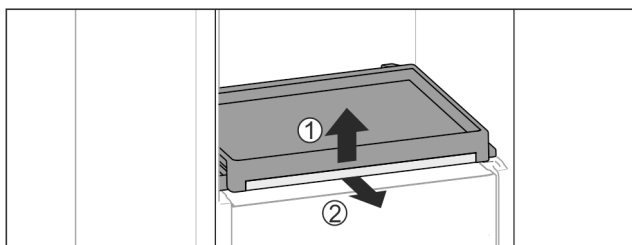

Fig. 39
- To remove the pull-out board with glass panel: Gently lift the glass panel at the front Fig. 39 (1) and pull out to the front Fig. 39 (2).